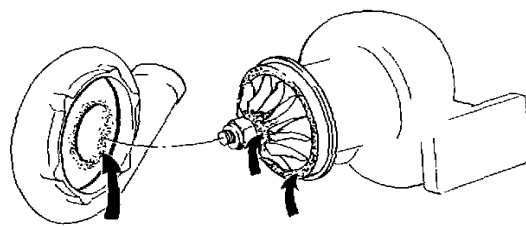

Fig. 195.
4. Connect a transparent plastic pipe to the measuring flange as shown in fig. 195 or, alternatively a low pressure manometer.